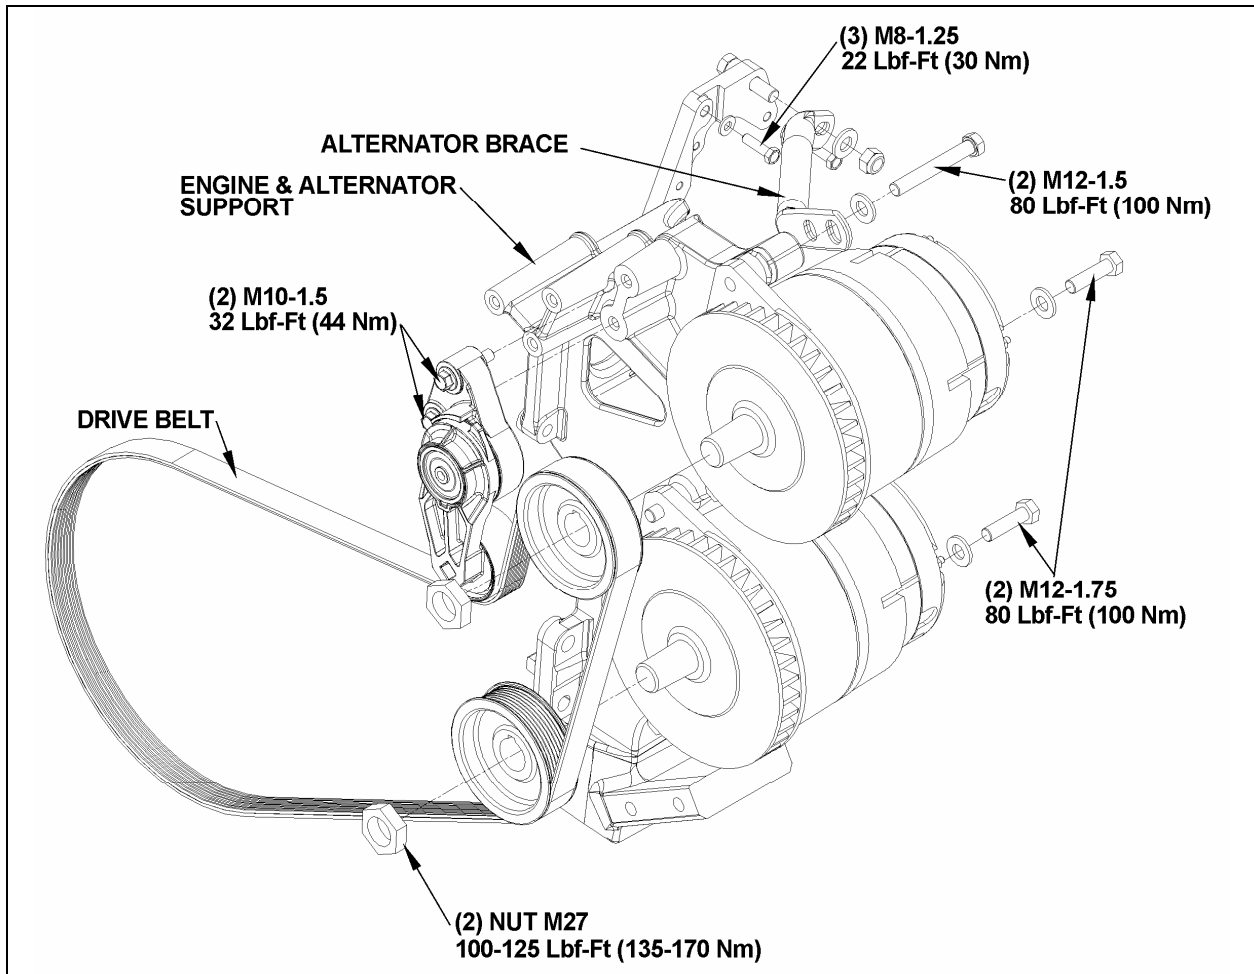

FIGURE 22: BOSCH ALTERNATORS MOUNTING TORQUES (VOLVO D13)
If the alternators needed to be removed, reinstall as follows. Refer to figures 22 and 23 for installation and tightening specifications:
1. If not already done, mount the alternator brace to the engine and alternator support (figure 22);
2. Bolt the alternators to the bracket using one 3.5 inch bolt at the top and two 1¾ inch bolts at the lower mounting bosses (fig. 22);